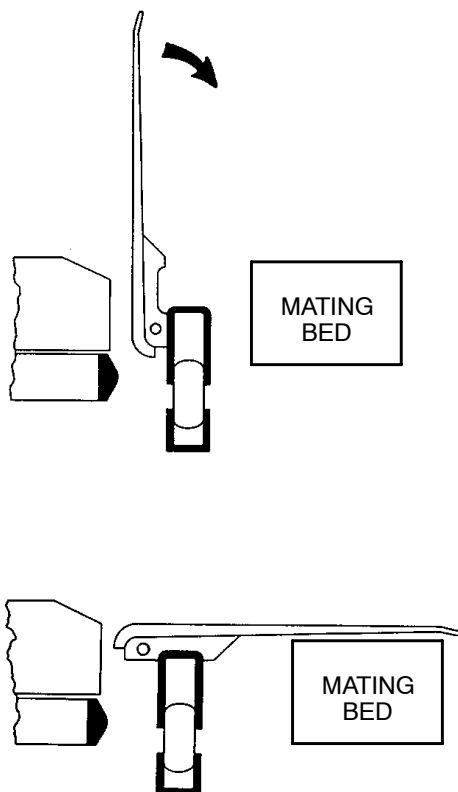

Figure 5: Transfer Board
Note: The transfer board (C) is located between the siderail (A) and the mattress (B) as shown in Figure 5.
1. Lower siderail (A) to full down position.
2. Raise the transfer board (C) from the bottom while lifting from the top.